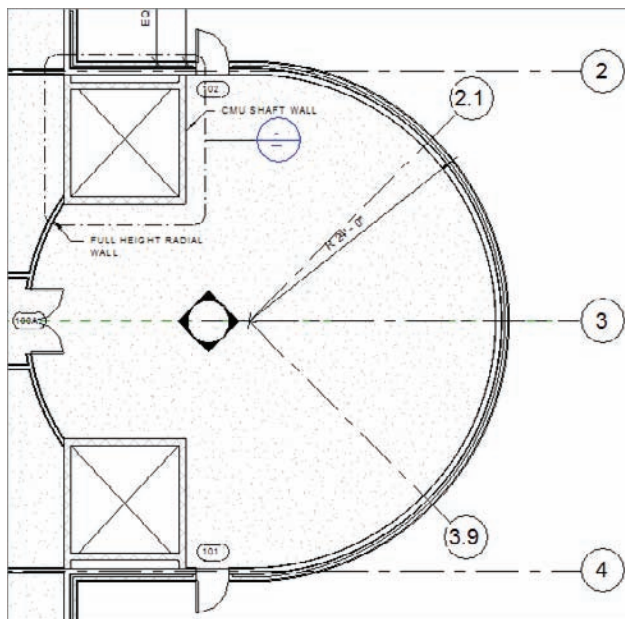

FIGURE 8.8 Adding two additional grids and renumbering them
3. Draw the line at a 45-degree angle until you are beyond the radial wall, as shown in Figure 8.8.
6. Renumber it to read 3.9 (see Figure 8.8).